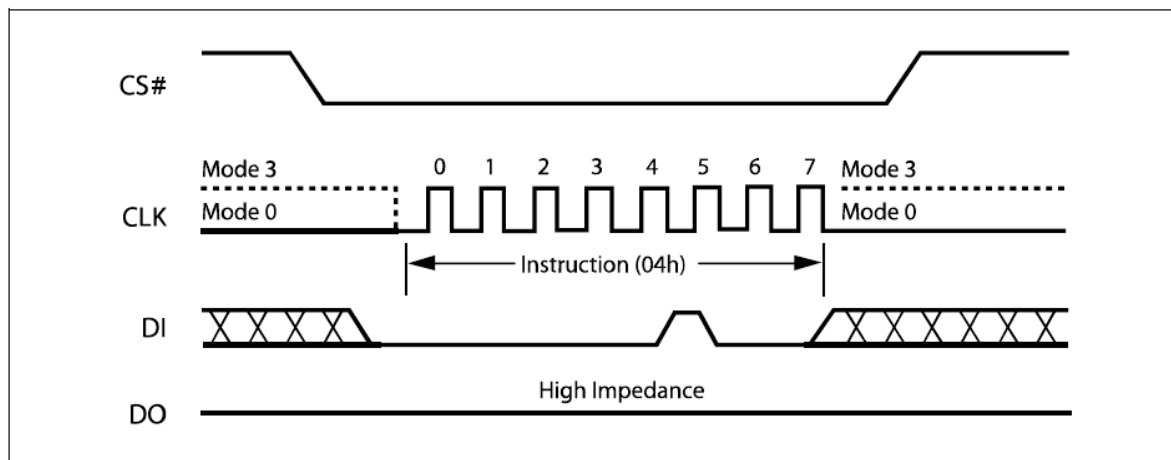

Figure 10. Write Disable Instruction Sequence Diagram
The Write Disable instruction (Figure 10) resets the Write Enable Latch (WEL) bit in the Status Register to a 0 or exit from OTP mode to normal mode. The Write Disable instruction is entered by driving Chip Select (CS#) low, shifting the instruction code "04h" into the DI pin and then driving Chip Select (CS#) high. Note that the WEL bit is automatically reset after Power-up and upon completion of the Write Status Register, Page Program, Sector Erase, Half Block Erase (HBE), Block Erase (BE) and Chip Erase instructions.